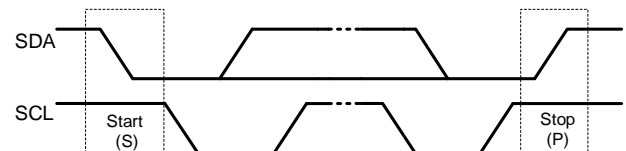

Figure 13: Start and Stop Commands
All transactions begin with a start (S) command and are terminated by a stop (P) command. Start and stop commands are always generated by the master. A start command is defined as a high-to-low transition on the SDA while the SCL is high. A stop command is defined as a low-to-high transition on the SDA while the SCL is high (see Figure 13).